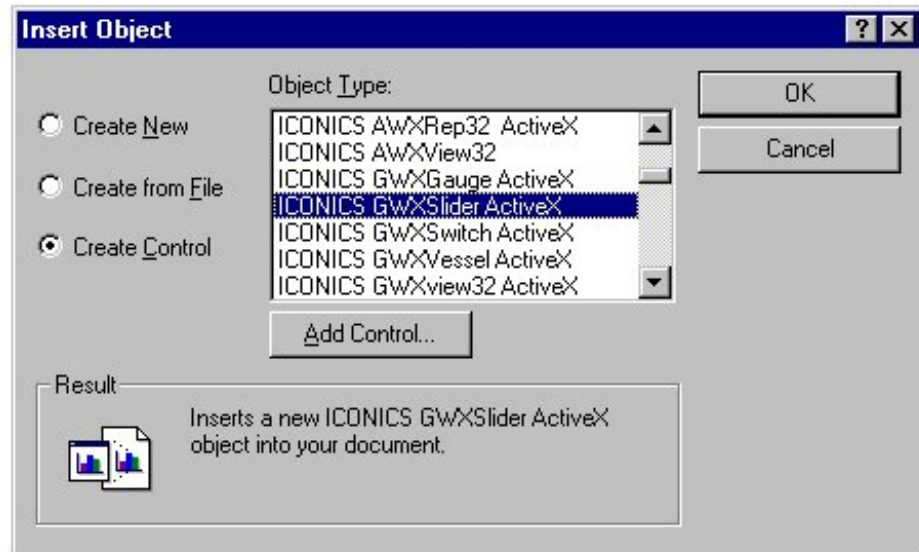

Figure 17-2: Insert Object Dialog Box
1. In M-Graphics on the Edit menu, select Insert New Object. The Insert Object dialog box appears (Figure 17-2).